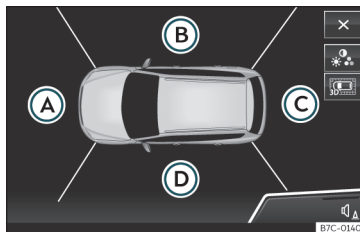

Fig. 238 Display of the Area View system: aerial view.
Key to the Fig. 238:
The aerial view is generated by combining the images from all the cameras >>> **Fig. 238**. The aerial view can be selected by pressing the *vehicle* in the area.
Select the corresponding view by pressing the different areas >>> **Fig. 238** (A) to (D) of the aerial view or the reduced aerial view.
Automatic connection of the display:	The infotainment system screen displays the aerial view >>> Fig. 238 . If you press the  button when driving above 15 km/h (9 mph), the image will not be displayed.